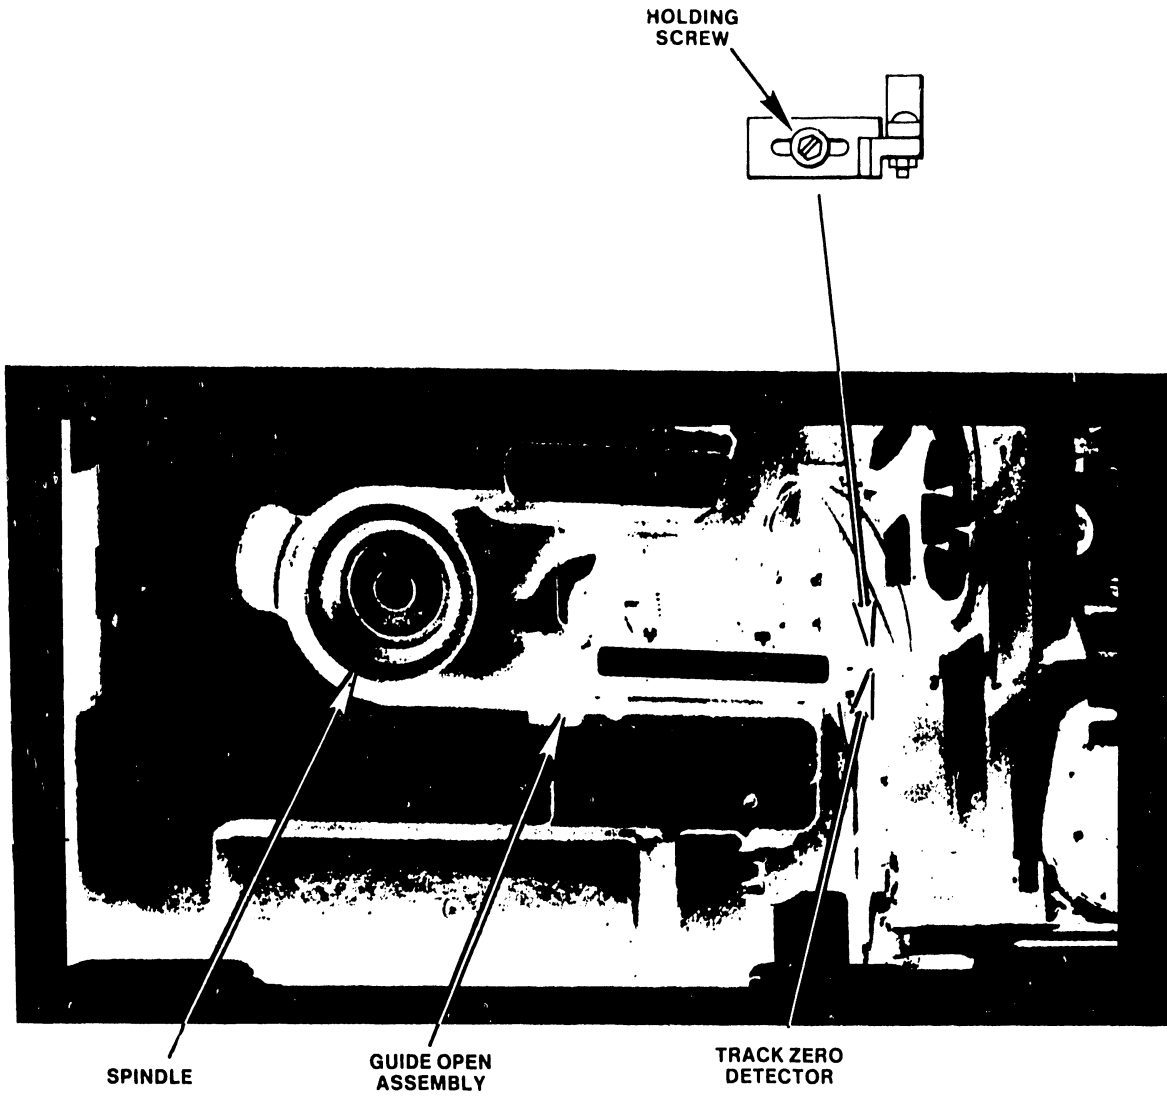

FIGURE 6 TRACK 0 DETECTOR
5. Hit ENTER and observe that the oscilloscope trace goes high (+5 volts). If not, locate the Track 0 Detector Assembly (Figure 6), loosen the holding screw, and move the assembly toward the spindle. Tighten the holding screw.